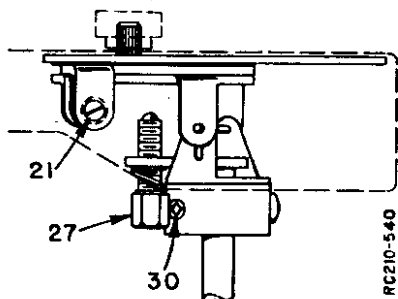

Figure 6. Arm Detail Showing Adjustments.
As the control cam continues its rotation, the pivot link (84) moves back following the cam, since the roller (85) is kept in contact with the cam by the control plate spring (87). This moves the control plate (83) back, the arm control lever (103) moves the pickup arm to the set-down point for the record to be played. The pickup arm is held above the record because the lift rod (28) is still resting at the top of the inclined tab (83A) on the control plate (83). The set-down point is governed by the set-down adjusting screw (21). (See figure 6.) The shoulder on the set-down arm (104A) holds the pickup arm at the set-down point until it is pushed back by the edge of the control plate engaging the set-down arm stud (104B). The pickup arm is then free and moves down toward the record starting groove.
Adjustment of the set-down point, for either 7-inch, 10-inch, or 12-inch records, is made by adjustment of the set-down adjusting screw (21), see Figure 6. Screw (21) is accessible through hole in right side of pickup arm. This adjustment must be made with the record size selector knob (17) in the "10.12" position. When turning this knob be sure to turn it all the way (the dot between "10.12" should line up with the indicating dot on the pickup arm) to avoid making the set-down adjustment at the wrong point, resulting in improper set-down on 7-inch records. Turning the set-down adjusting screw (21) in, moves the set-down point of the pickup arm closer to the centerpost and turning the screw out moves it away from the centerpost.
ADJUSTING THE PICKUP ARM HEIGHT (See Figure 6)